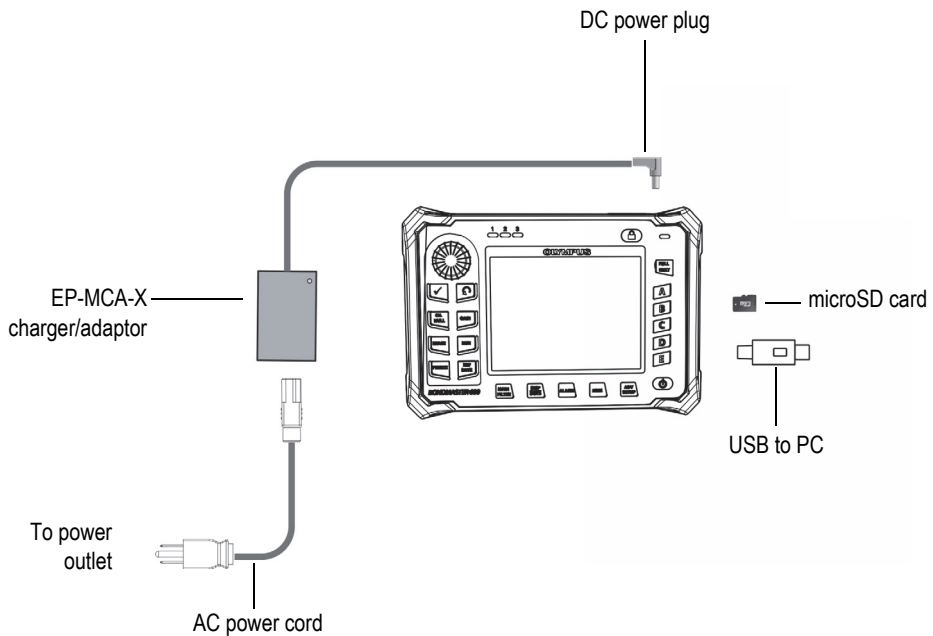

Figure 2-1 The BondMaster 600 connections
Figure 2-1 on page 33 illustrates the connections of the BondMaster 600 with the charger/adaptor, the microSD card, and a personal computer (PC).